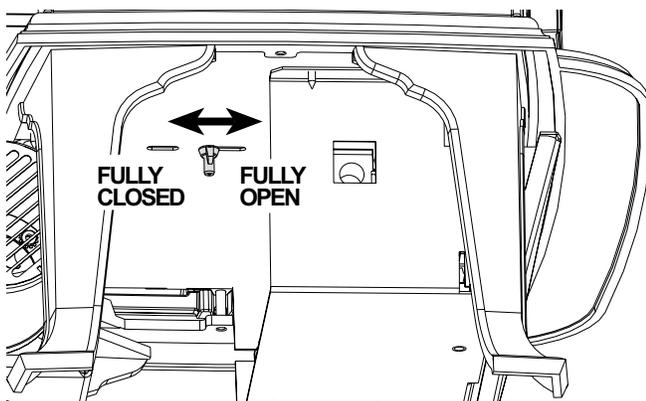

Figure 42.
See Flame Appearance / Air Shutter section of this manual for proper air shutter settings and adjustments. Note: the more offsets there are in the vent system, the greater the need for an air shutter adjustment. See fig. 42, page 24.
1. Reach under the stove and loosen the wingnut. See fig. 42 Slide the wing nut stud forward to open the air shutter and back to provide less air. Make adjustments in small increments.